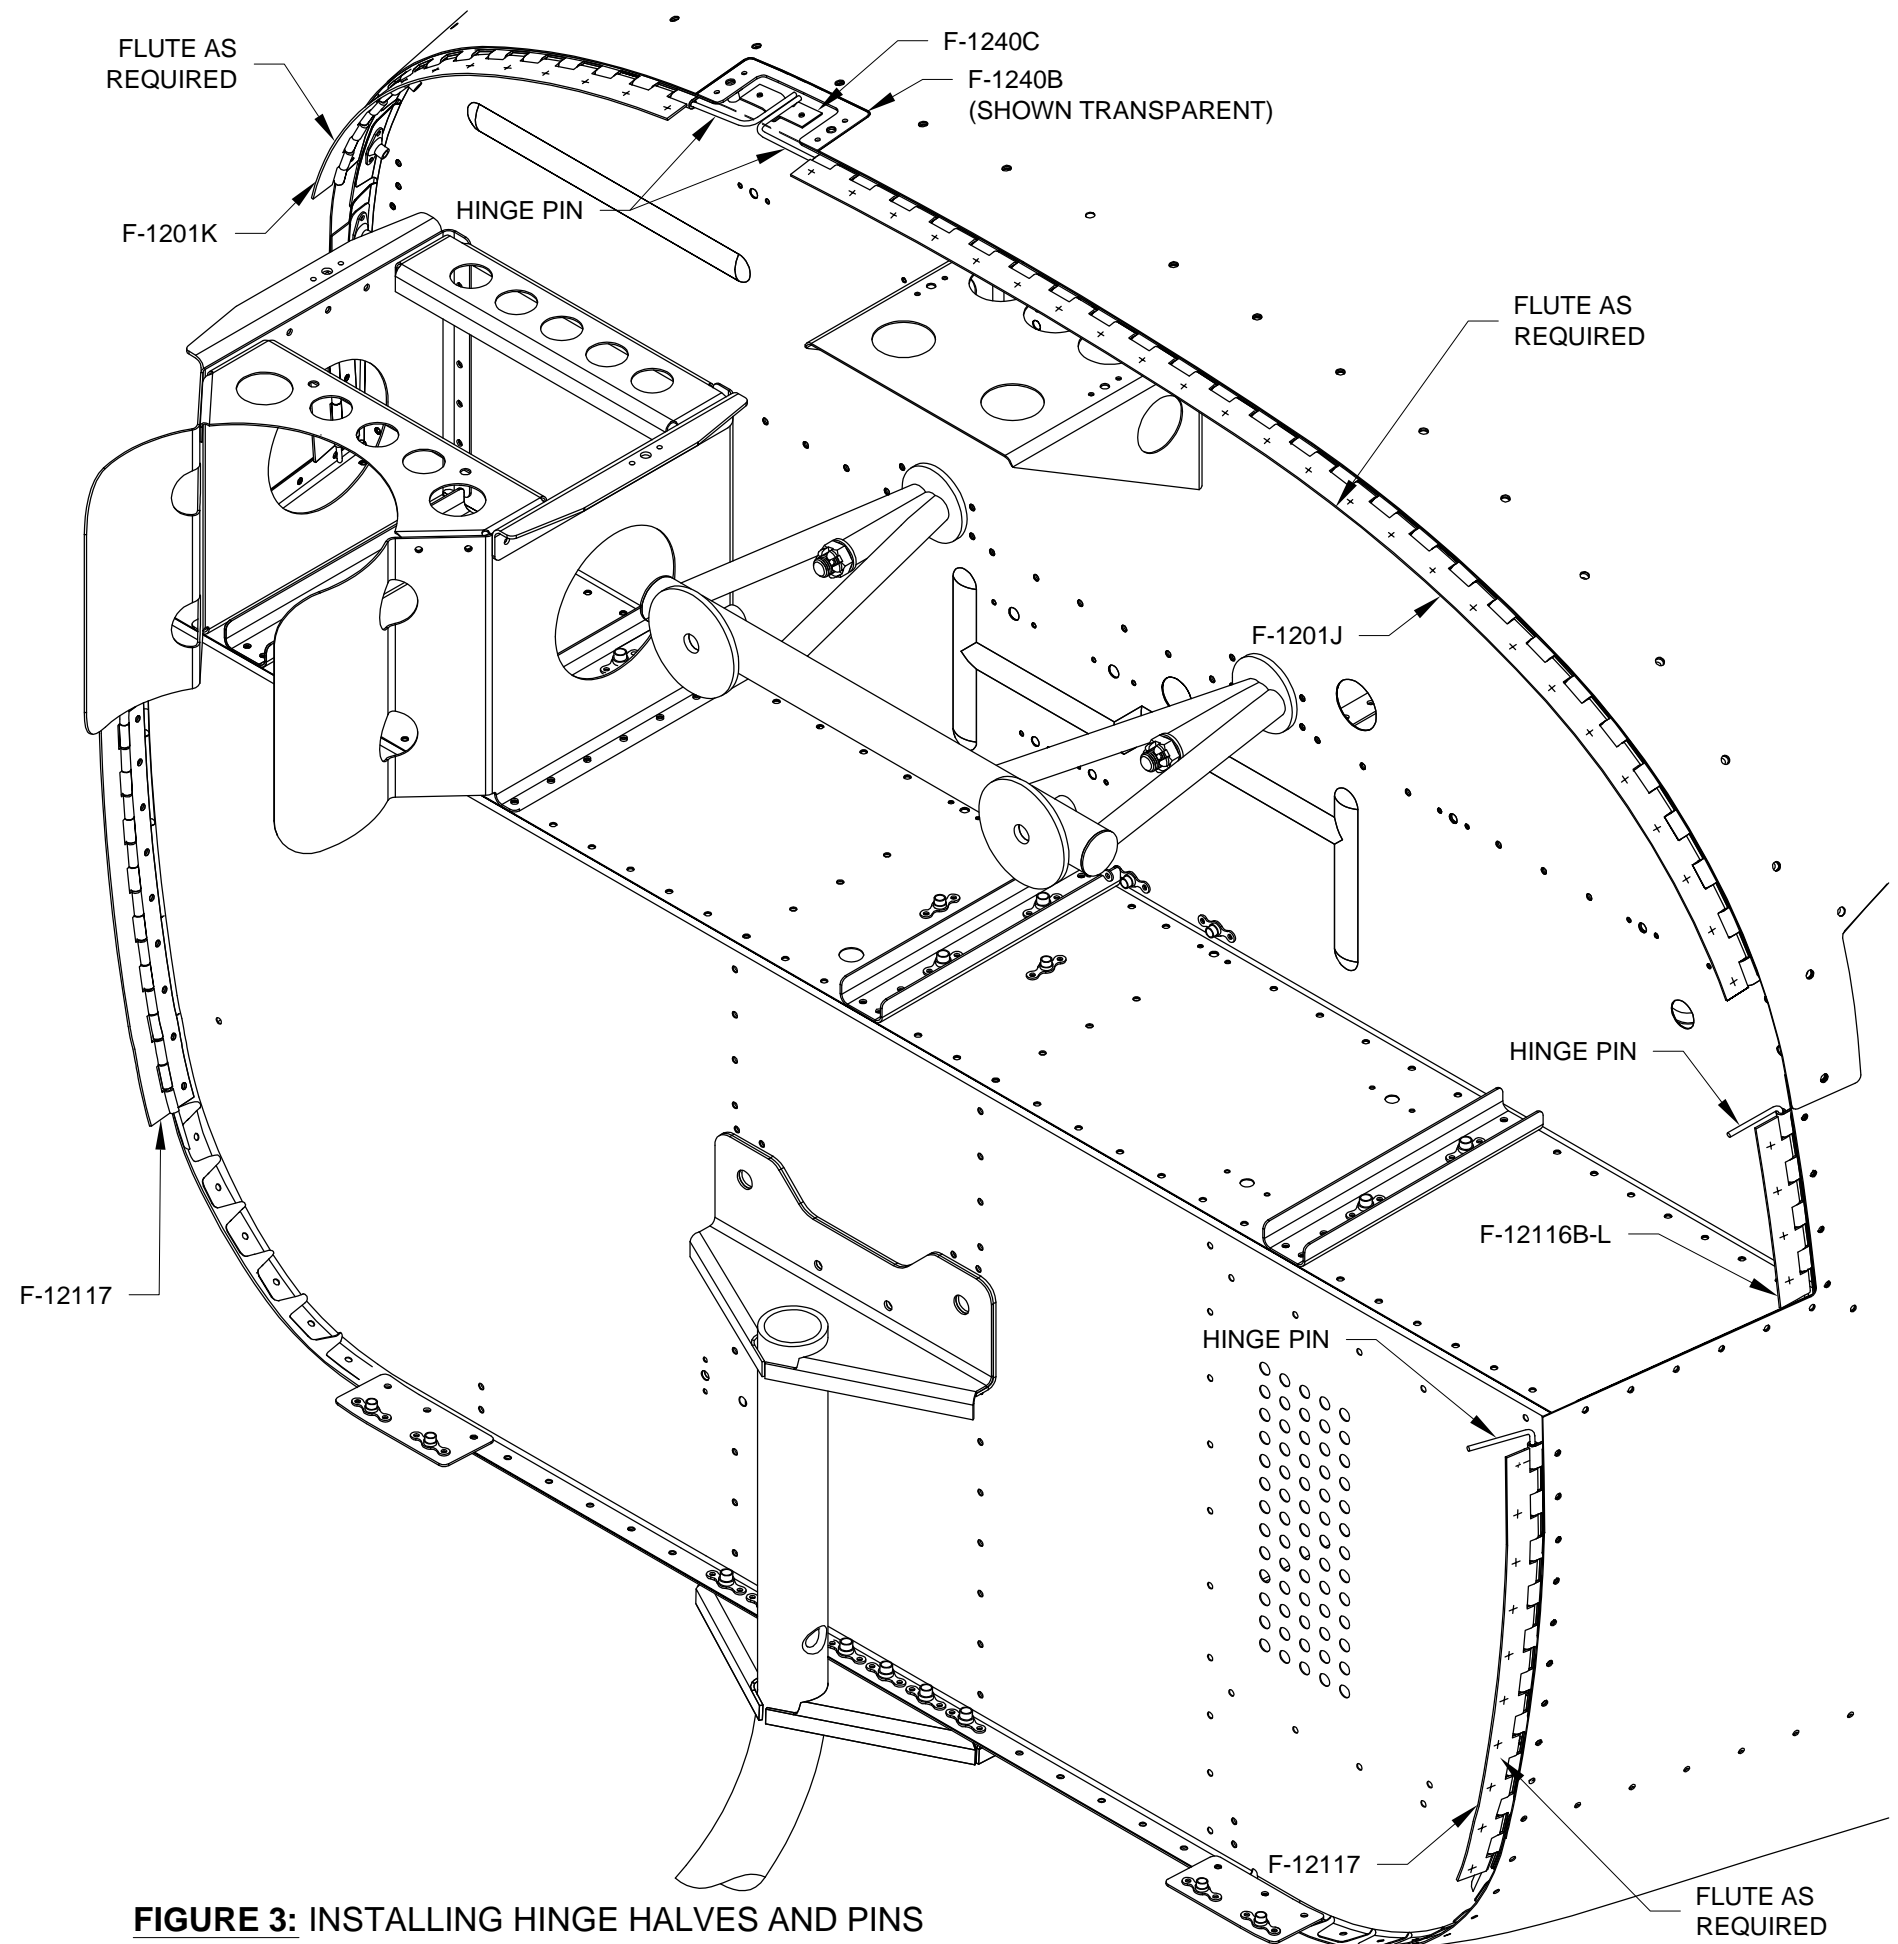

**FIGURE 2: MARKING THE ATTACHMENT LOCATIONS**
**Step 2:** Layout the hole pattern on the F-12115 Side Hinges, as well as the hinge halves remaining from the F-1201J Upper Cowl Hinge, F-1201K Upper Cowl Hinge, and F-12117 Lower Cowl Hinges as shown in Figure 2. Do not drill the holes at this time.